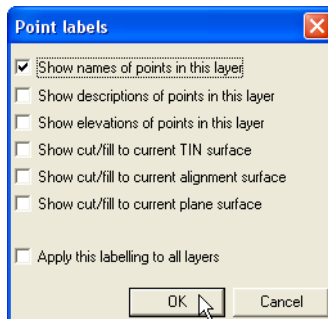

Figure 2-9. Select Point Labeling Parameters for Layer
- Check the desired label settings for the layer (or for all layers) and click **OK** (Figure 2-9).